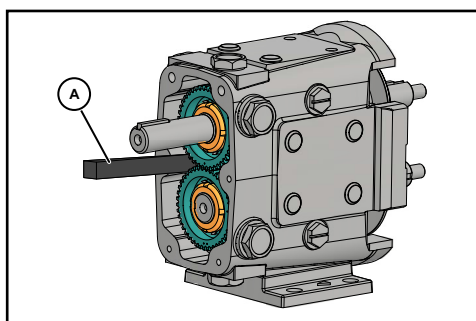

Figure 67 - Block Shaft Rotation
4. Use a wood or nylon block (Figure 67, item A) to keep the shafts from turning. If a block is not available, use rags to block the gears, or with one rotor on the shaft, block the rotor with a nylon dowel.